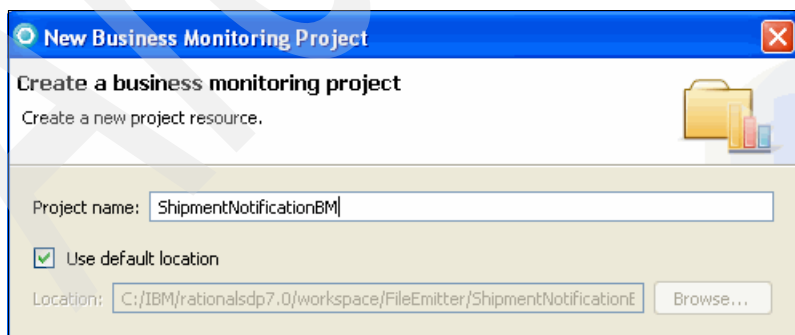

Figure 9-39 `ShipmentNotificationBM` Business Monitoring Project
3. In the New Business Monitoring Project window (Figure 9-39), for Project name, type `ShipmentNotificationBM` and click **Finish**.